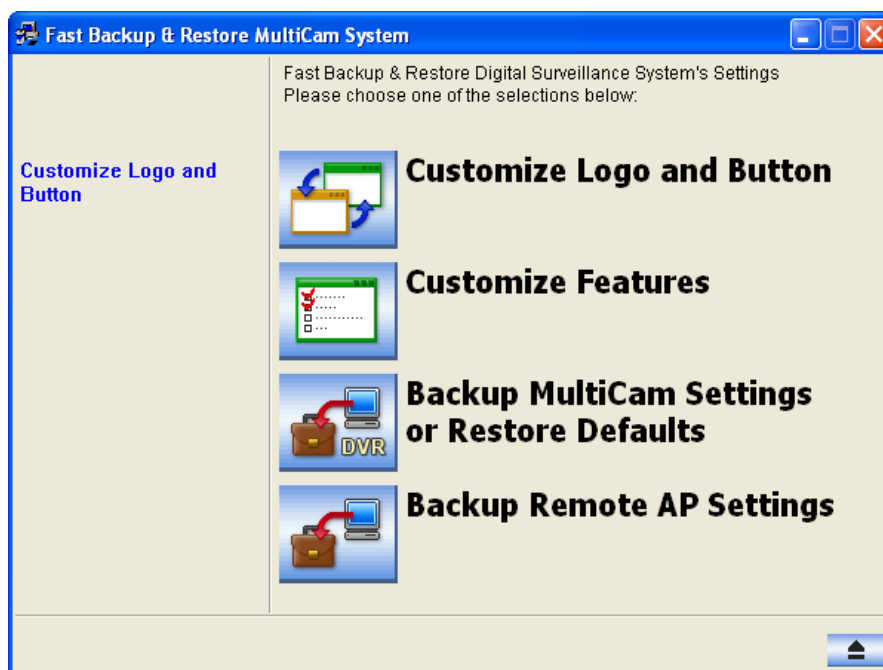

Figure 11-37
1. In the FBR window (Figure 11-37), click the **Customize Logo and Button** icon, select **DVR**, and then select **Custom Logo**. This window appears.
1. In the FBR Window (Figure 11-37), click the **Customize Features** icon to display this dialog box.
1. In the FBR window (Figure 11-37), click the **Backup System Settings or Restore Defaults** icon, and select **Backup Current System**. This dialog box appears.